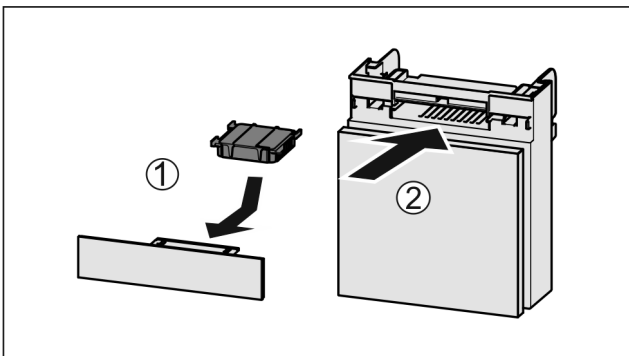

Fig. 75
- Insert the carbon filter as shown in the diagram Fig. 75 (1).
- Push the compartment in Fig. 75 (2).